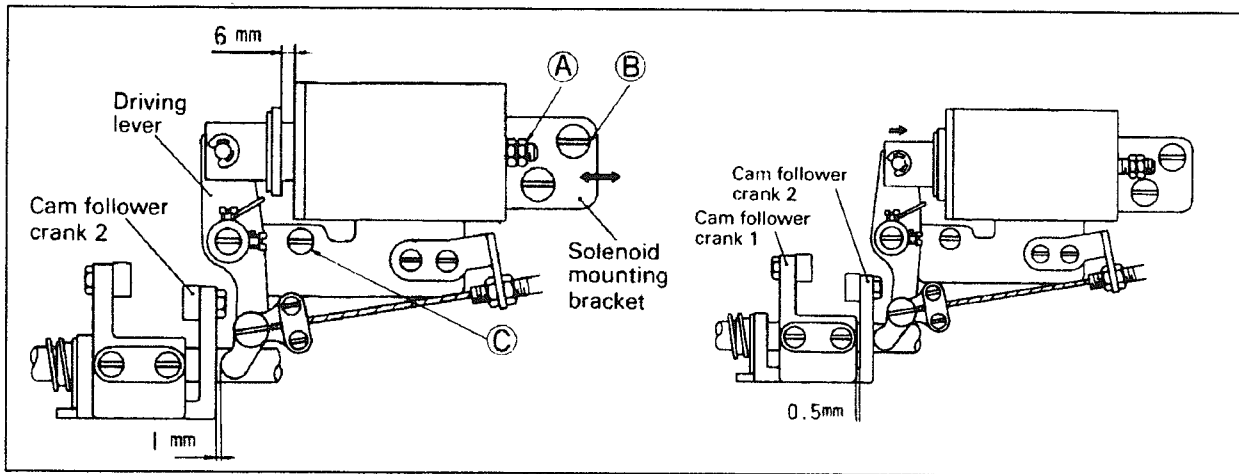

**Fig.36**
- (1) The standard position is illustrated as Fig.36.
- (2) When assembling, the knife driving shaft must first be put through the drive arm.
- (3) Cam follower crank 1 must be positioned as illustrated to the right, and secured on the recess located on the knife driving shaft.
- (4) The stopper must be secured on the recess in such a way that the knife driving shaft is snug and smoothly rotates in the shaft direction.